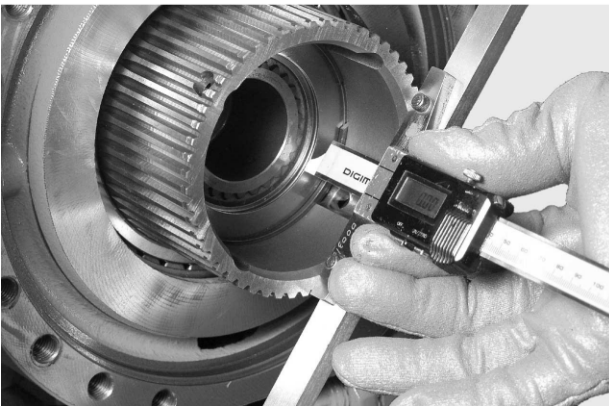

Fig 26.
- 7 Zero a depth gauge from the end of the differential brake disc carrier splines to the thrust bearing face of the differential friction pack. ⇒ Fig 26. \(□ G-12\).